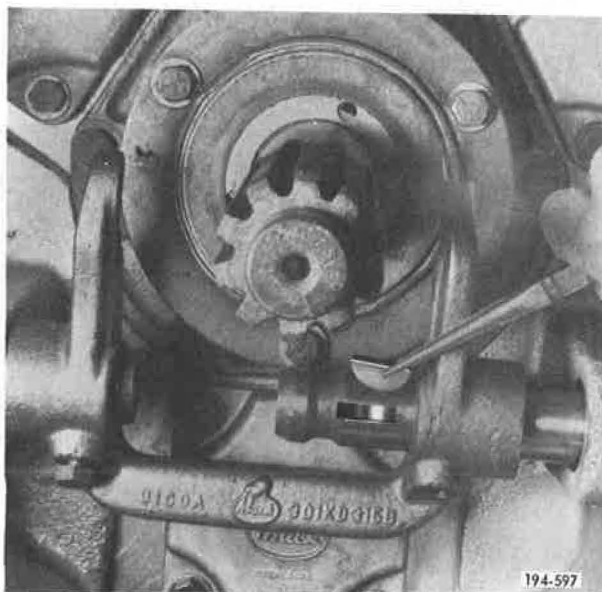

Figure 5-990. Installing Key
23. Tap splined clutch release shaft into housing from outside of housing. Insert Woodruff key. See Figure 5-990.